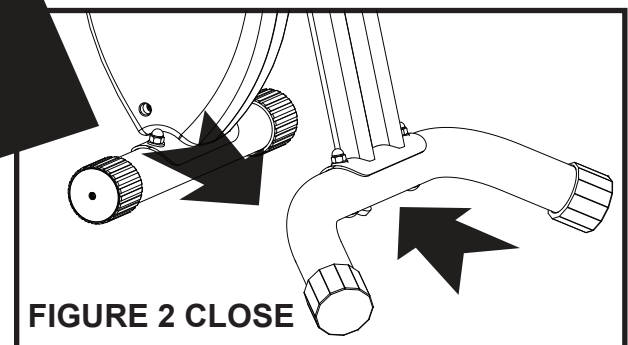

Figure 2. TO CLOSE:
Step 2: After removal, attach the Rear (**I**) and the Front Stabilizers (**H**) (**Figure 3**) to the Main Frame (**F**) using Stabilizer Washers (**BB**) and four Cap Nuts (**AA**). Tighten with Wrench (**BB2**). **Figure 2 and 3**